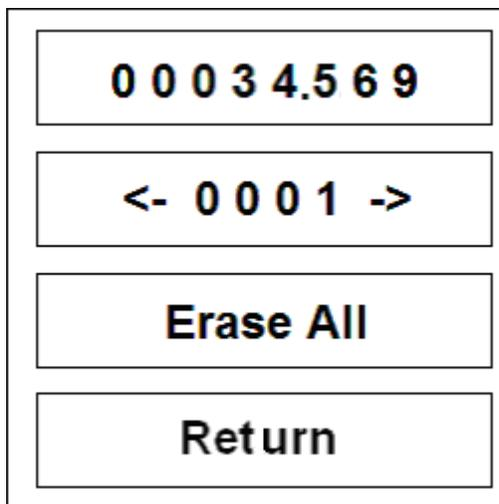

Fig. 7 **“Data”** screen
- a. Touch **“Data”** tab on the **“Main Menu”** screen will let you select the assay in which you want to inspect the data. The **“Data”** screen now shows similar to Fig. 7. The first row shows the saved data, and the second row shows the data sequential number. You can touch the left and right arrow key to change the data number to inspect other saved data.